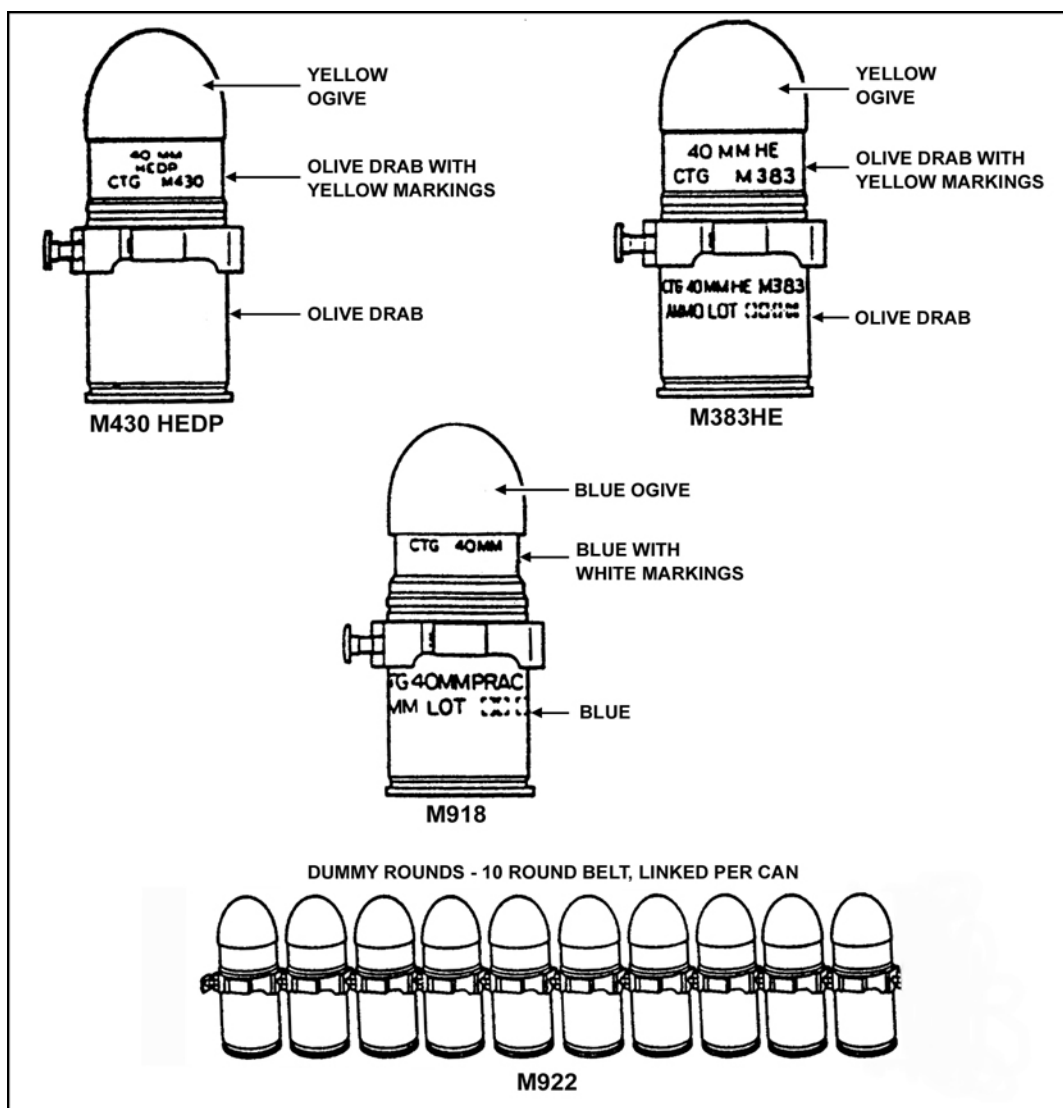

Figure 1-5. 40-mm cartridges.
h. The MK 19 uses the following 40-mm cartridges (Figure 1-5, page 1-8).
(2) **High-Explosive M383 Cartridge.** The high-explosive (HE) M383 cartridge round is olive drab with a yellow ogive and yellow markings. It is packed in a metal ammunition container (48 rounds, linked, in each container). The HE round has a wound radius of 15